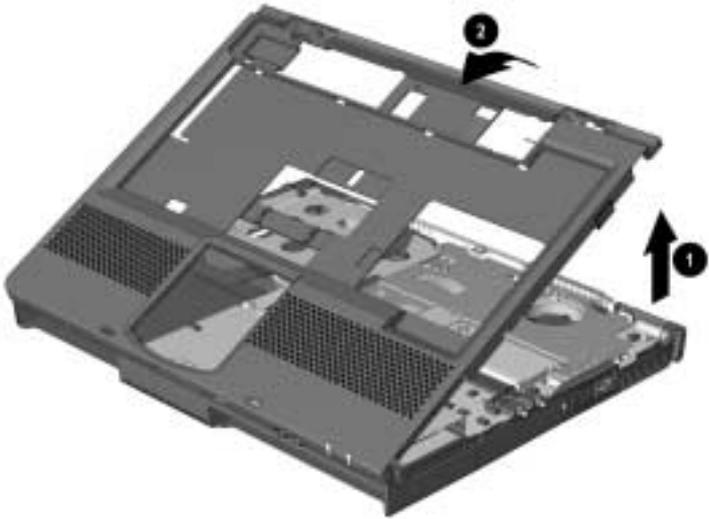

Figure 5-21. *Removing the Top Cover*
10. Lift the back edge of the top cover ① and swing it forward ② (Figure 5-21).